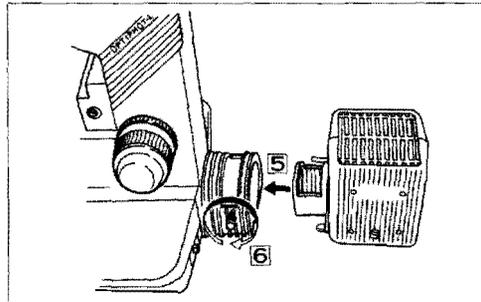

Fig. 2-5
- Insert the lamp housing into the lamp housing mount of the microscope base fitting the groove of the lamp housing to the turning limit pin of the lamp housing mount **5** and fasten it firmly with the clamp screw of the lamp housing **6** (Fig. 2-5).